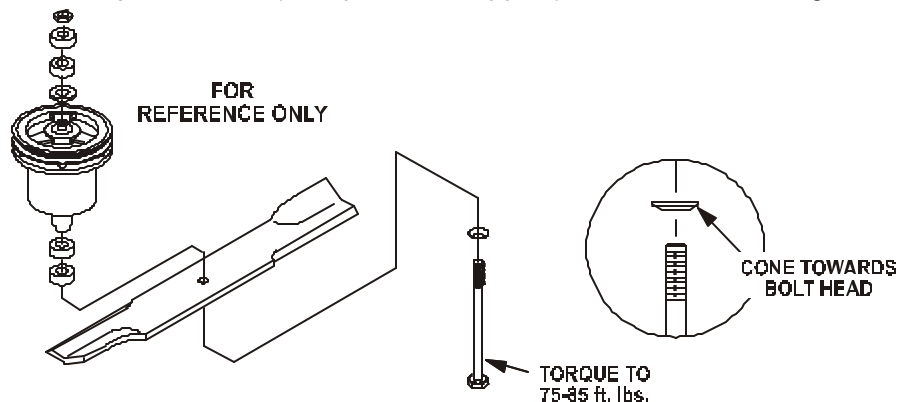

FIGURE 18 (102-115 N-m)
- g) Re-install the blades (if they were removed) and torque blade bolts to 75-85 ft/lbs (102-115 N-m). Be sure the spring disk washer cone is installed toward the bolt head (See Figure 18).